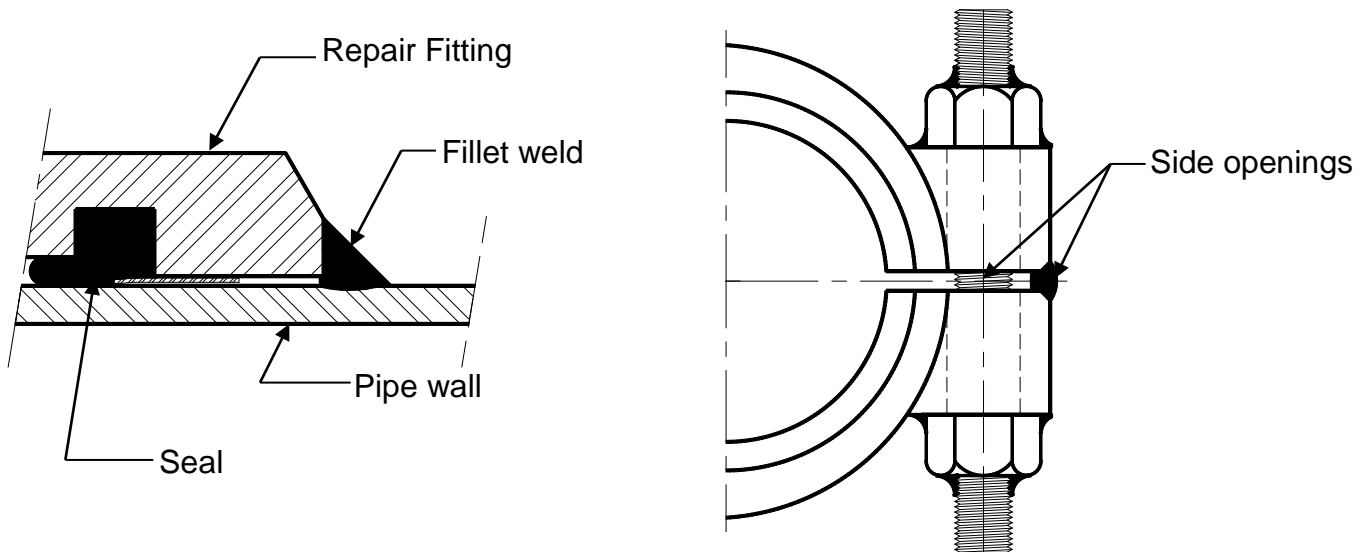

Figure 2
2. Fillet weld ends to pipe. (See Figure 2)